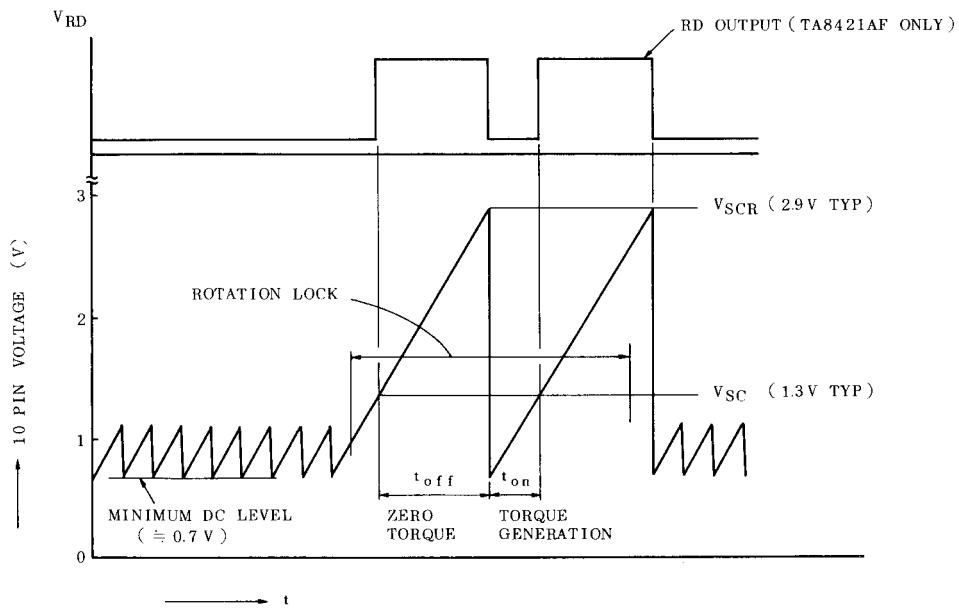

Fig. 1 Automatic Self Rotation Recovery Circuit Operation
Fig.1 shows PIN ⑩ pin voltage and the operation of this functions are as follows.
RD output becomes low (Actually VSAT(RD) level of 0.3V TYP.) when the Motor in rotation state and generates t_{off} pulse when the rotation is locked (Refer to Fig. 1).